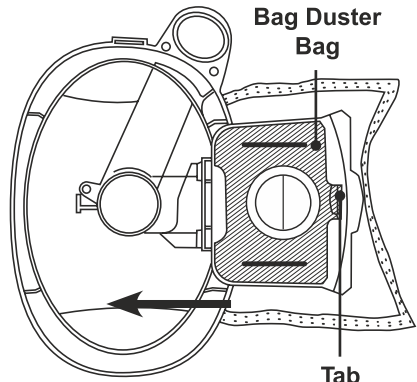

Fig 19
3. Holding the Dust Bag in your hand, slide it out from the slots in the bag holder. Hold carefully in order to avoid having dust fall out of Dust Bag. (Fig.19)